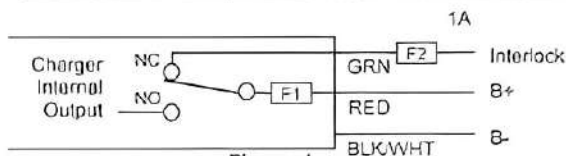

Figure 1
- The green wire outputs battery voltage when the charger is not plugged into AC to provide an interlock function – see Fig. 1. If used, a user-supplied 1A first-blow external fuse must be installed inline to prevent damage. Shorting or drawing more than 1A may damage charger and void the warranty.